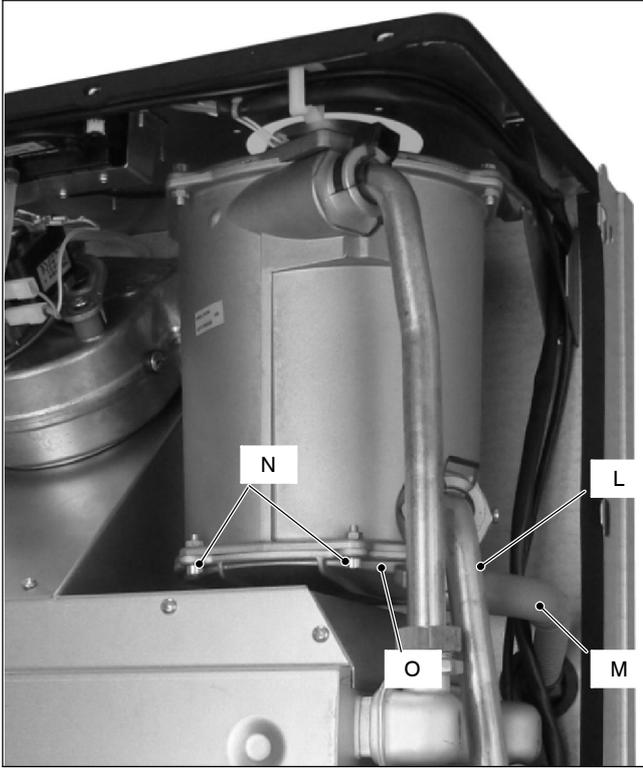

Fig. 3
- 1 Using pliers, remove the spring *L* moving it towards right and disconnect the rubber pipe *M* (Fig. 3).
- 2 Unscrewing the screws *N* (Fig. 3).
- 3 Remove the condensing heat exchange lid *O* (Fig. 3) moving towards the front of the boiler.